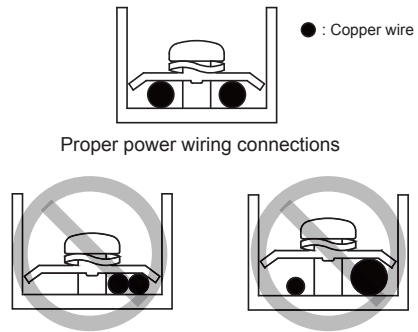

Figure 9.2
- Do not connect two power cords with different diameters to the same power supply terminal (this may cause overheating of wires due to loose wiring.) (See Figure 9.2).